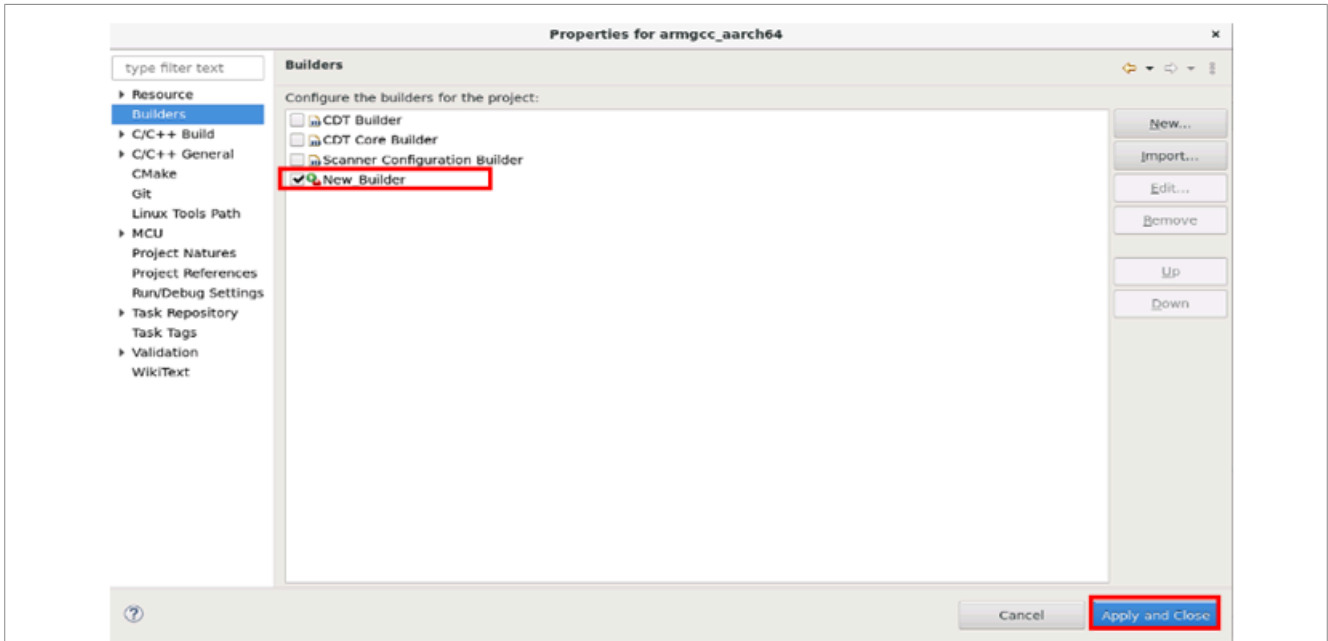

Figure 39. Builder tab
- f. Select the building configuration that is added and click **Apply and Close** as shown in Figure 39.